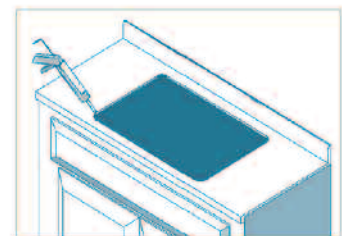

**Figure 2.** Draw cutout line 1/2" in from sink outline.
3. Measure in 1/2" from the sink outline and draw a second line inside the first line. Use the compass to draw a 1 1/2" radius at each corner of the second line. This inside line will be the cutout line. See Figure 2.